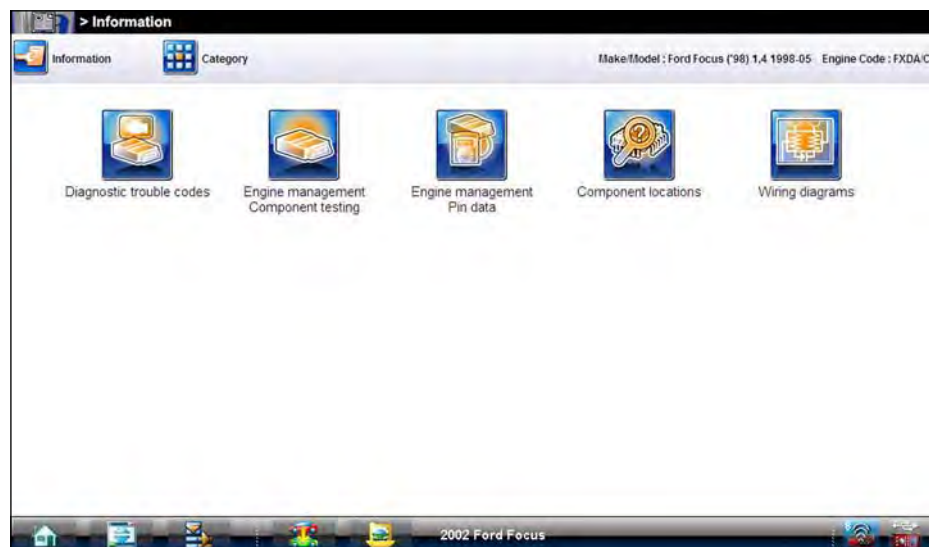

Figure 9-2 Sample information main menu
- With an active vehicle, the Information main menu, which allows you to select different types of tests, opens (Figure 9-2).
Anytime a Category icon appears in the upper toolbar portion of the screen while navigating through Information, selecting it returns you to the Information Menu (Figure 9-2).